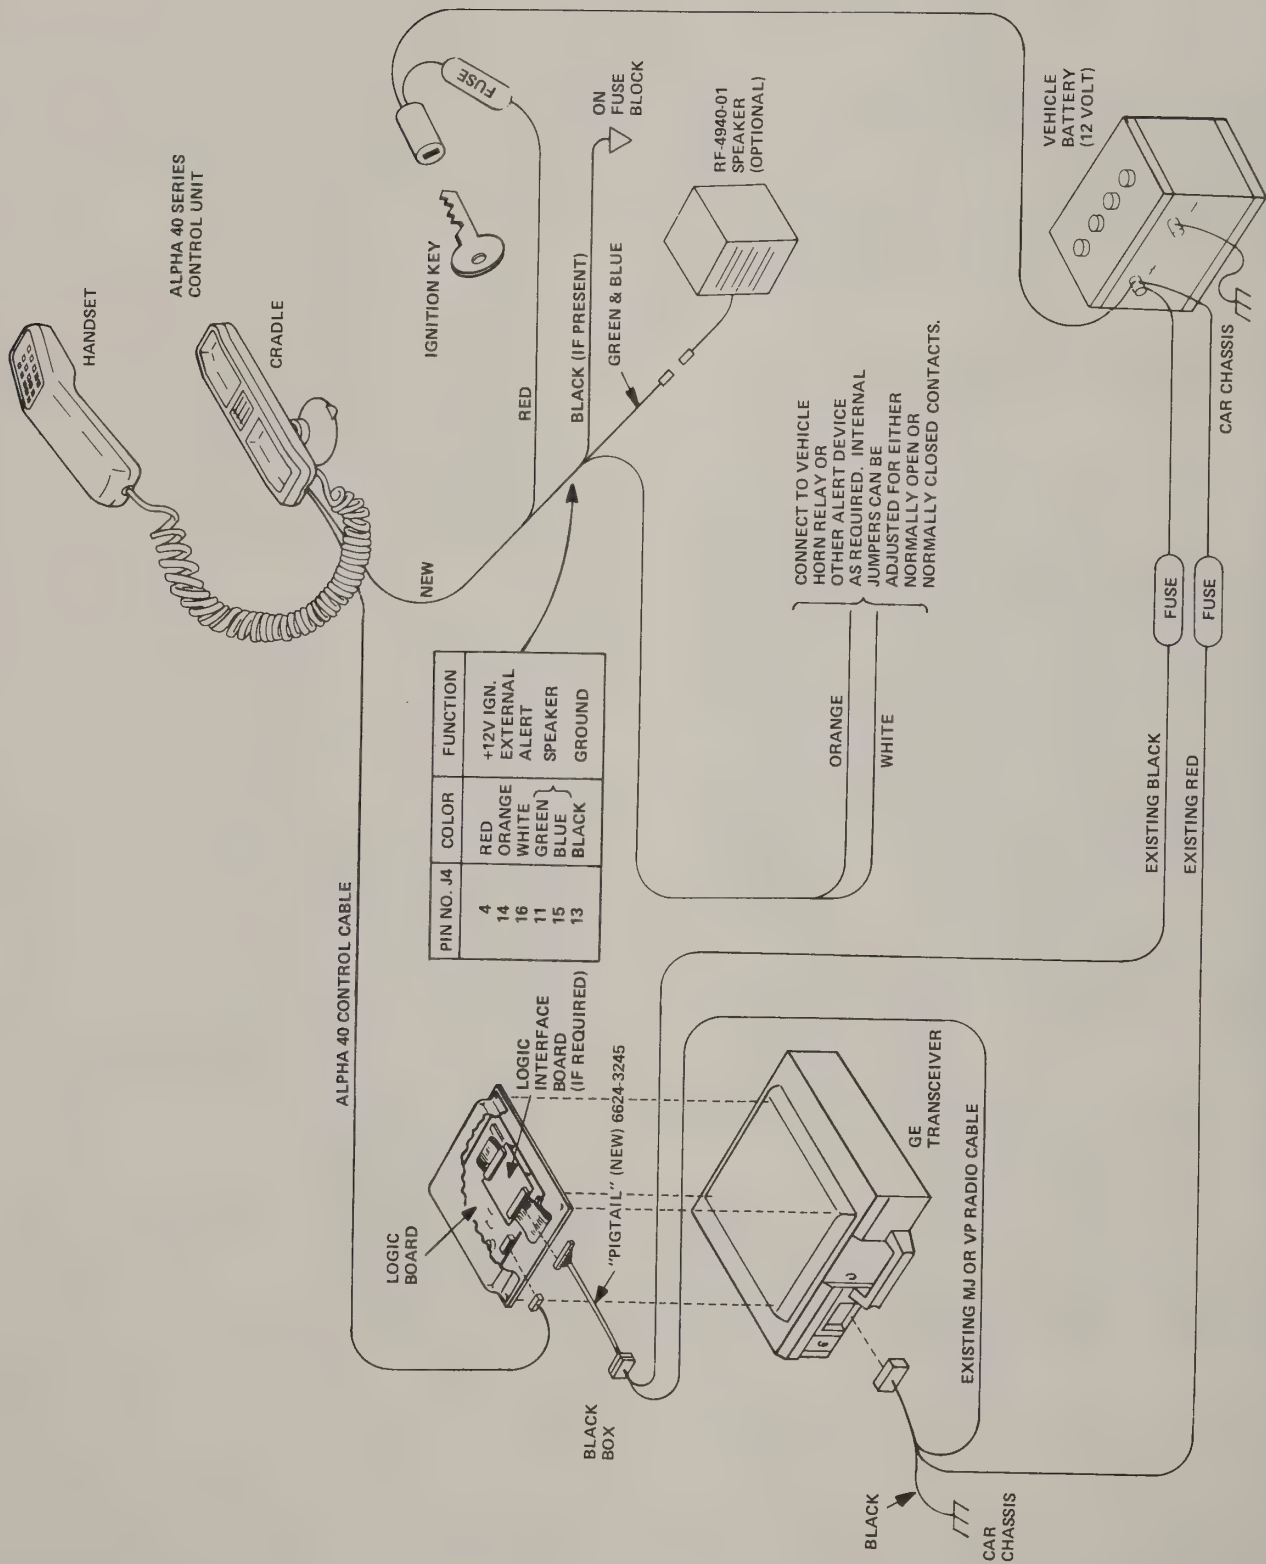

Figure 5-1. Typical ALPHA 40 Control Unit Installation with General Electric Transceivers
1.02 Figure 5-1 shows the cabling and wiring of a typical General Electric modification.